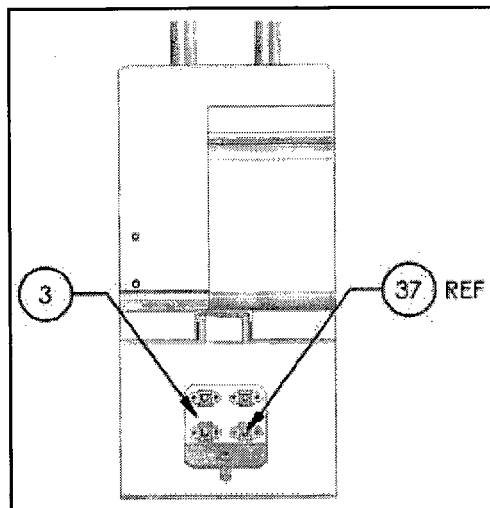

Figure 4.3: Doubler Assy Installation
Parts List for Figure 4.3:
- 4.10 Apply Sealant to the faying surface of the Doubler Assy (F/N 3) and position on the inside of the Nosecover such that the nutplates would pick up the Screws (F/N 37) holding the Fwd Wiper Deflector in place (see Figure 4.3). Tighten Screws and clean off excess Sealant. Prepare one screw as shown in Figure 4.2 for electrical bonding preparation as shown in Appendix A.